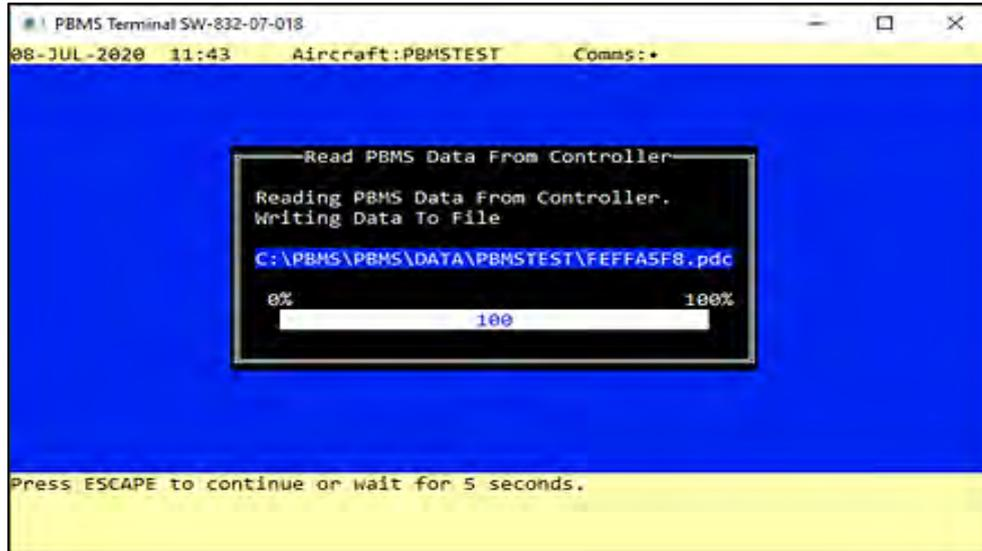

Figure 3-12 Reading Data
- (4) The PBMS Terminal will Read Data from the ANCU and Write the Data into a File. (The file location is shown on the screen (**Ref Fig 3-12**) The PBMS Terminal also provides an indication of Progress. (PBMSTEST will be replaced with the Aircraft S/N Entered in section 3.C.6)